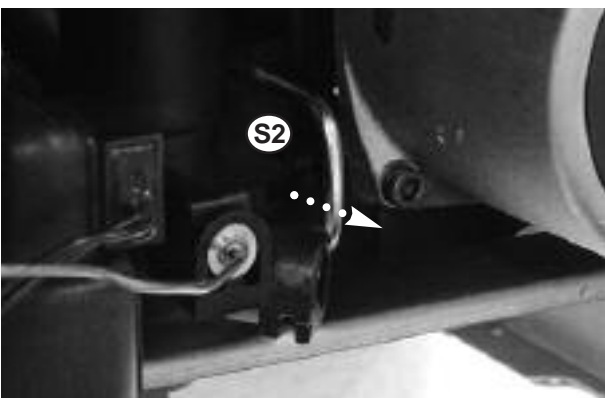

Fig. 94
6. Remove the clip S2 on the pump volute (see Fig. 94);